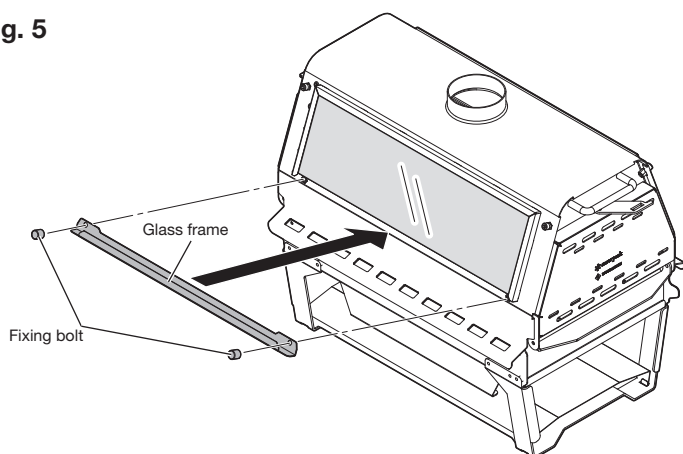

Fig. 6
⑥ Fold the glass fixing rope in half, align the fold with the center of the inner side of the glass, and fill between the glass and the body. (Fig. 6)